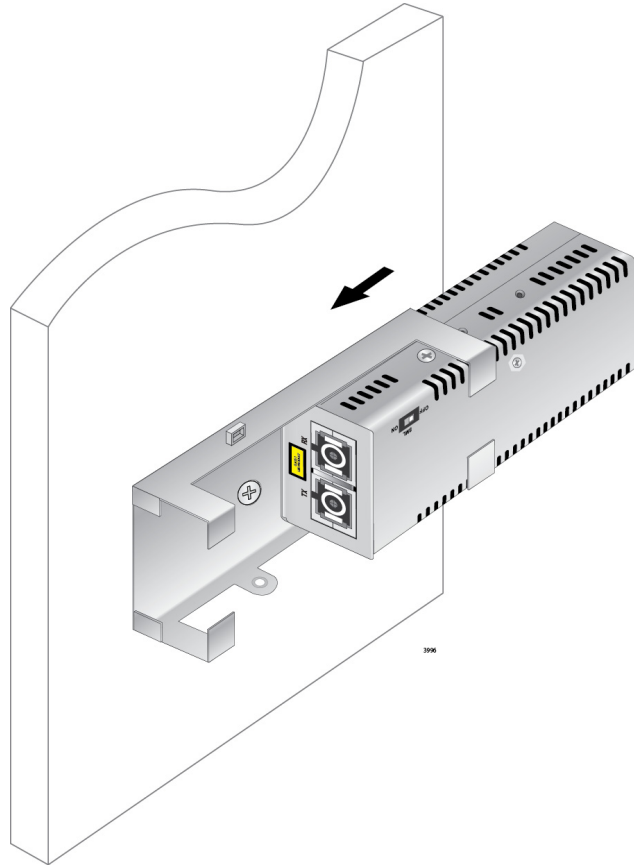

Figure 21. Attaching the Media Converter to the Mounting Bracket
5. Slide the media converter through the mounting bracket with the DIP switch facing outward, as shown in Figure 21 on page 43, and secure the bracket to the media converter with the bracket screw included with the bracket.